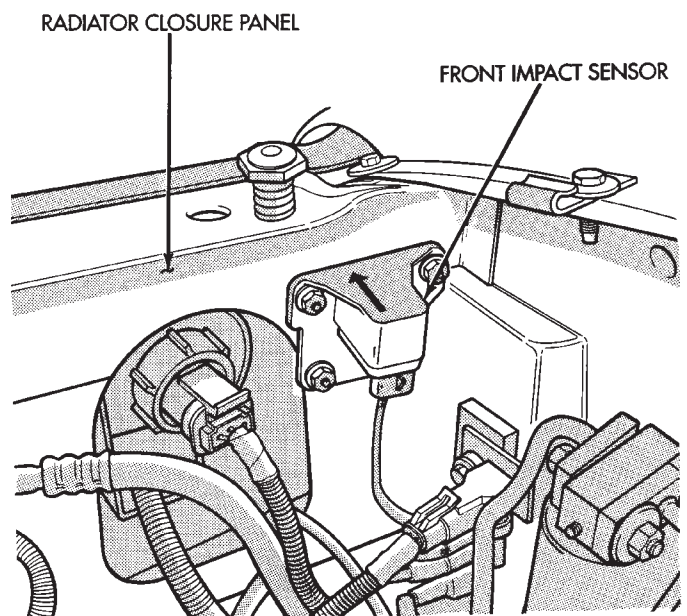

Fig. 7 Right Impact Sensor
- (2) Remove three nuts holding sensor to upper cross-member of radiator closure panel. Remove right sensor.
- (3) Disconnect impact sensor electrical connector (Fig. 7).